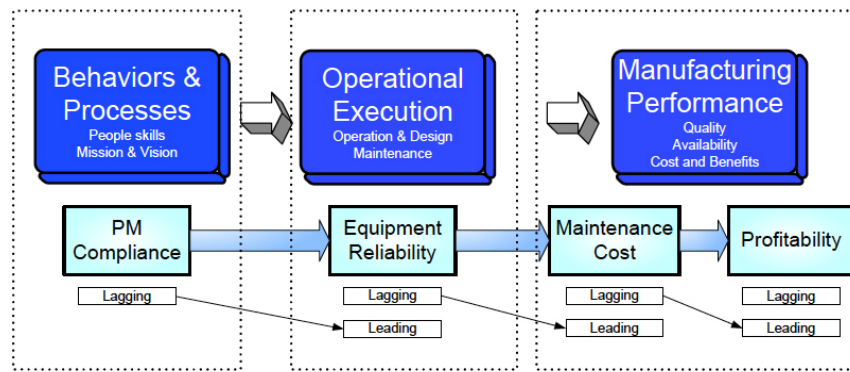

Figure 2: Leading and Lagging Indicator Mapping
The Leading and Lagging Indicator Mapping in Figure 2 shows the concept of an indicator being both leading and lagging. Preventive Maintenance (PM) Compliance is a lagging indicator, or result of how much PM work is completed when viewed in the context of work execution. However, when viewed as an indicator of equipment reliability, PM compliance is a leading indicator of the reliability process. The better or higher an organization's PM compliance, the more likely this will lead to or predict improved equipment reliability. Similarly, improved equipment reliability will lead to reduced Maintenance Costs, which is a lagging indicator of the maintenance process.